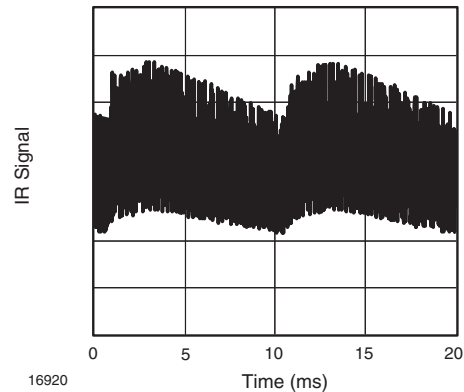
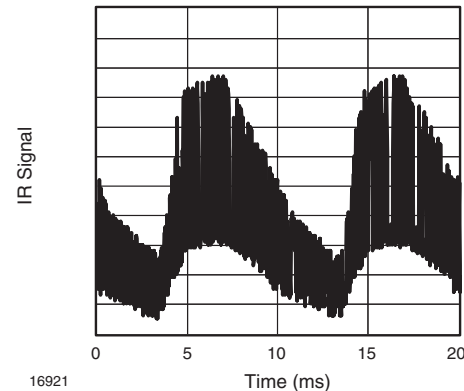

Fig. 13 - IR Signal from Fluorescent Lamp with Low Modulation
Fig. 14 - IR Signal from Fluorescent Lamp with High Modulation
- Strongly or weakly modulated patterns from fluorescent lamps with electronic ballasts (see figure 13 or figure 14)